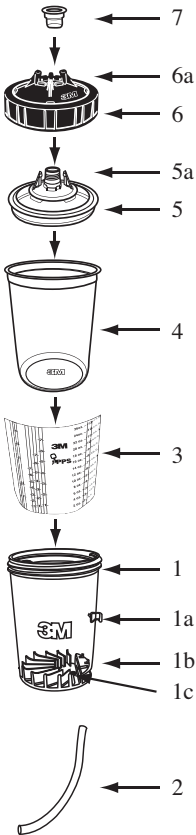

Figure 2
- **Use Only Genuine 3M Parts and Accessories. Reference Figure 2 Component Listing.**